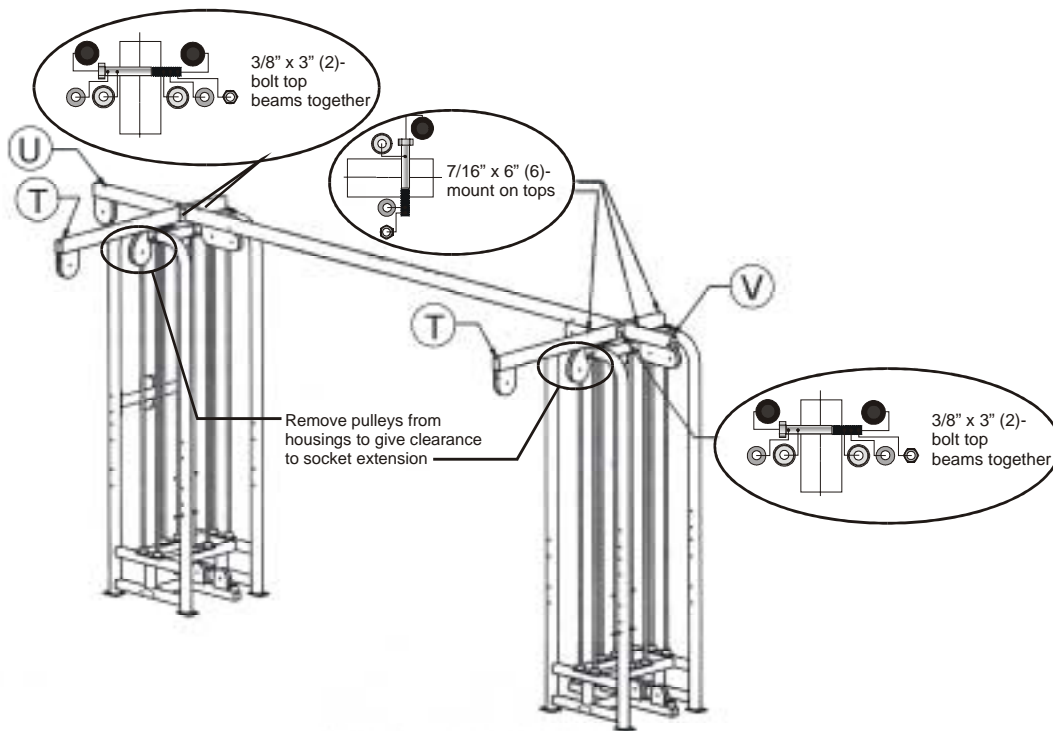

Figure 7. Mount lat tops (T), tricep top (U), adjustable crossover top (V).
- Using a 5/8" socket and combination wrench, mount the 56" lat tops (part T from *HARDWARE* section) to the cells by inserting two of the large 7/16" by 6" bolts using the hardware configuration shown in Figure 8. Mount the 29" tricep top (part U in *HARDWARE* section) and adjustable crossover top (part V in *HARDWARE* section) to the frame and connecting beam (See Figure 7). You will need to remove the teardrop pulleys from their housings to gain clearance for the socket extension used to tighten the bolts on the tops. Use a 9/16" socket and combination wrench to do this.